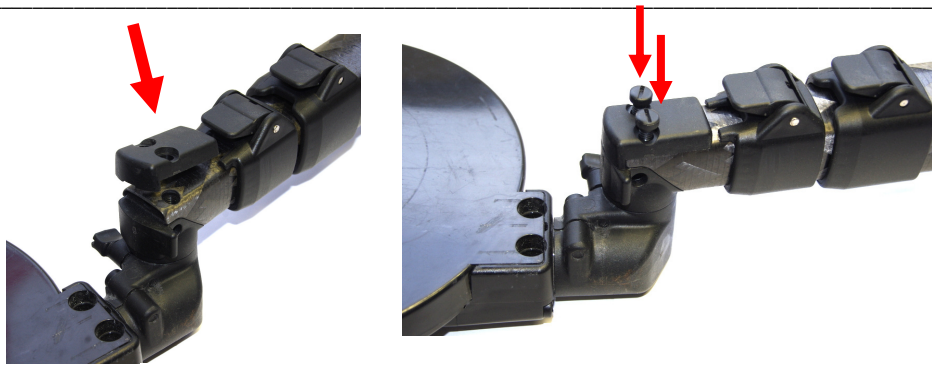

Figure 65: Fit cap shaft and screws
- Slide the coil into the end of the lower shaft. Fit the cap shaft then fit the two screws (14mm Nylon). Figure 65.